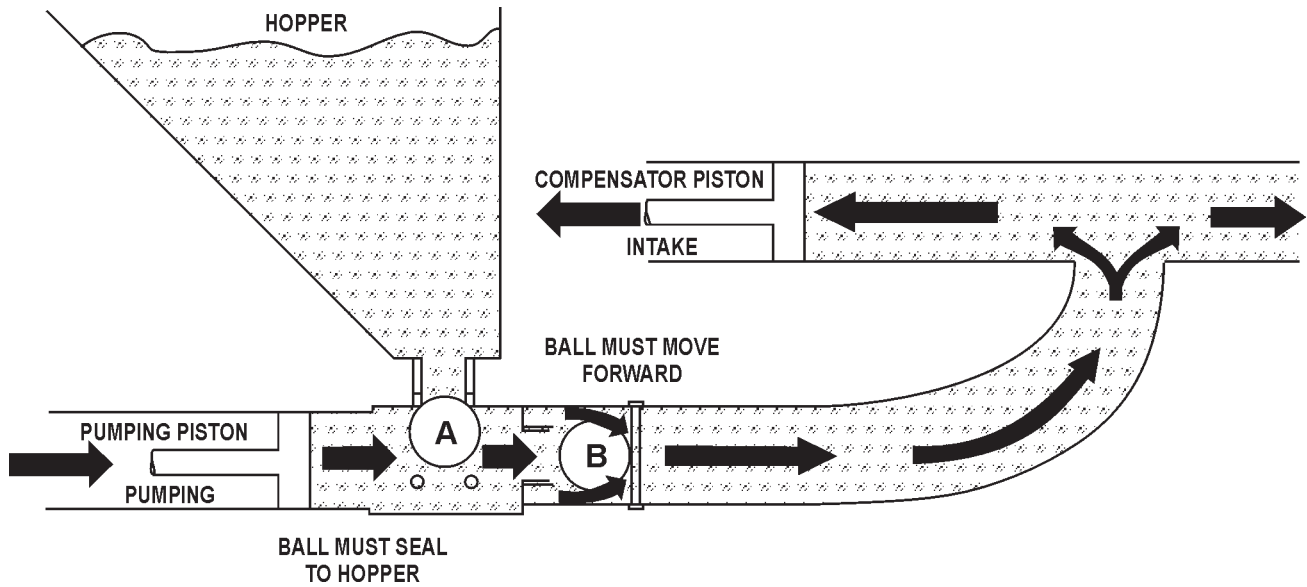

Figure 8. Pumping Pistons
The pumping piston (Figure 8) is forcing the material past ball (B) and out to the nozzle, also seating ball A so that the material will not flow back to the hopper. This action also fills the compensating piston for the next stroke.